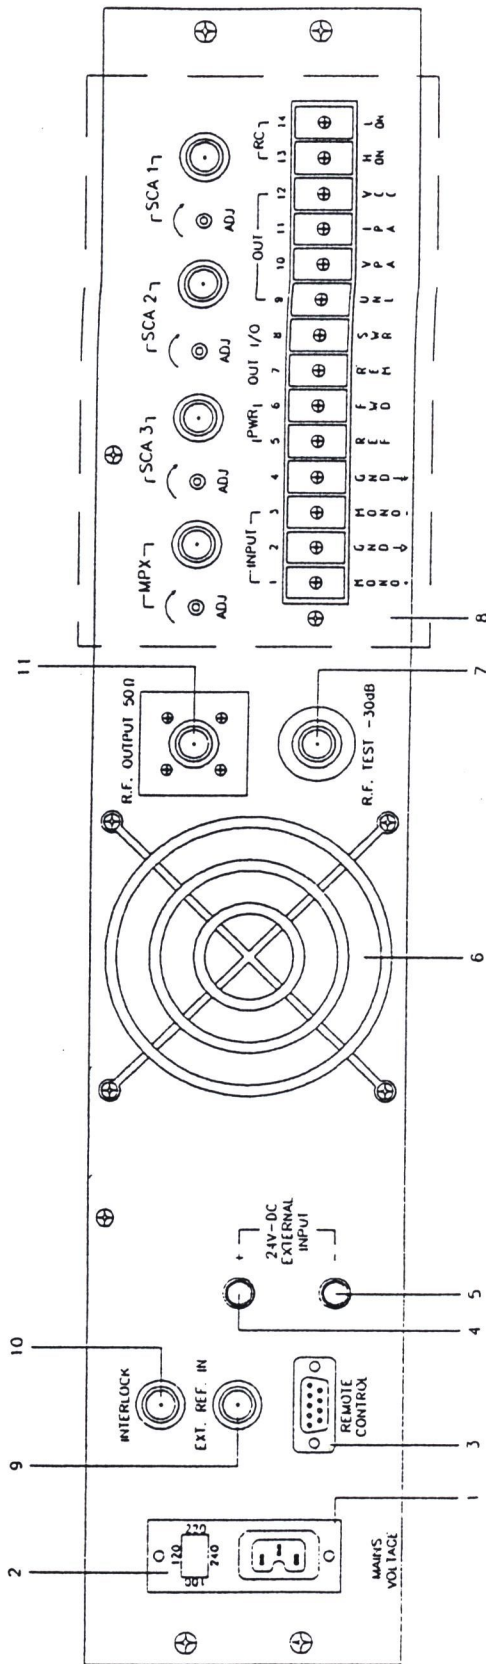

FIG. 2
REAR PANEL VIEW (FIG. 2)
- 1) ENSURE THAT THE CORRECT AC SUPPLY VOLTAGE HAS BEEN SELECTED ON THE REAR PANEL SELECTOR. IF THE VOLTAGE SELECTED IS NOT CORRECT, SELECT THE CORRECT SUPPLY VOLTAGE USING THE SELECTOR SITUATED ON THE REAR PANEL; USE A SCREWDRIVER TO RAISE THE COVER (# 2 FIG. 2) ON WHICH ARE WRITTEN THE VARIOUS VOLTAGES, ROTATE IT UNTIL THE ARROW POINTS TO THE CORRECT VOLTAGE AND RE-INSERT IT. CHECK THAT A FUSE IS FITTED TO THE COVER AND THAT ITS VALUE CORRESPONDS TO THE FOLLOWING:
- 4) CONNECT A SWITCH, VIA A CABLE, TO THE "REMOTE" CONNECTOR (# 10 FIG. 2) ON THE REAR PANEL SO THAT THE SWITCH IS ABLE TO SHORT THE CENTRAL CONDUCTOR TO ITS SCREEN AND LEAVE THE SWITCH IN THE SHORT-CIRCUIT POSITION.
- 6) CONNECT POWER TO THE UNIT VIA THE VDE SOCKET (# 1 FIG. 2).